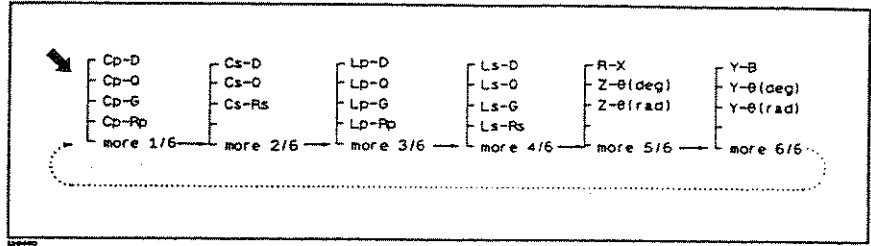

Figure 5-3. Measurement Function Display Order
- Press **more X/6** until the desired softkey labels are displayed. Figure 5-3 shows the display order of the measurement functions.